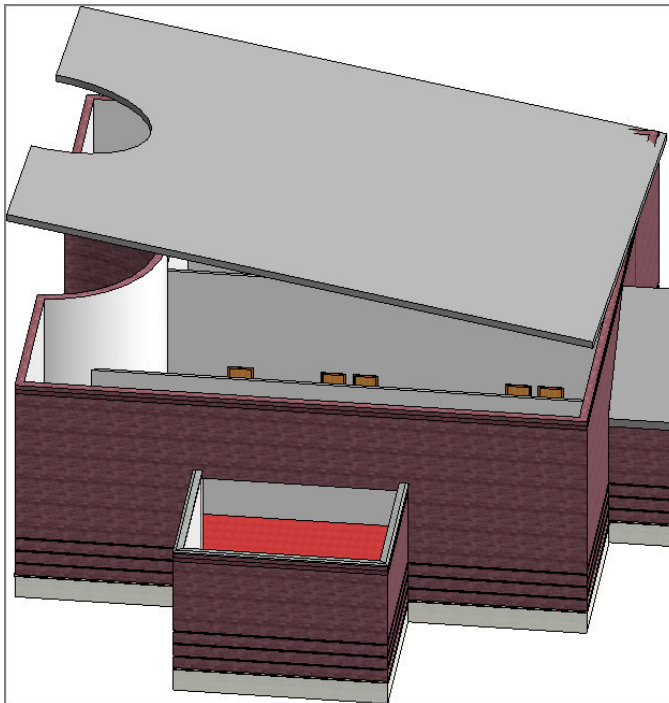

FIGURE 7.44: The sloping roof
7. Go to a 3D view. You now have a cool, sloping roof, as shown in Figure 7.44.